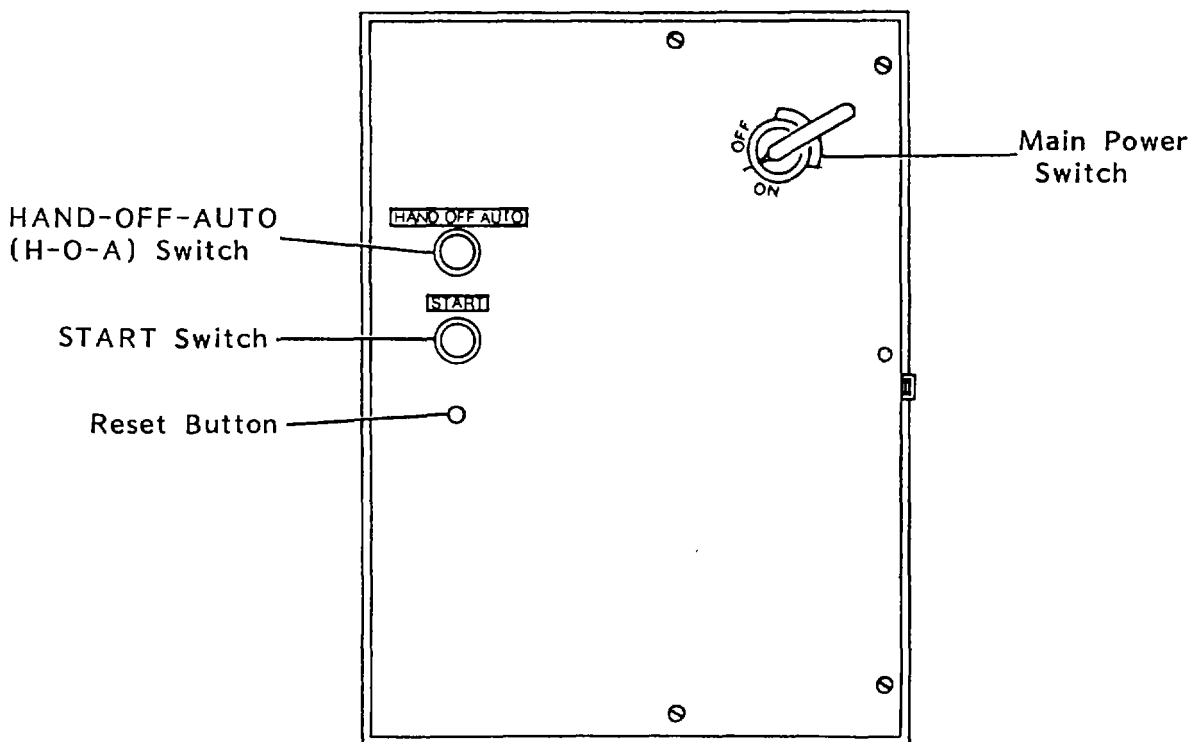

Figure 2-54. Starter Panel Controls
- b. Turn main power switch to ON (figure 2-54). Turn H-O-A switch to HAND position. Push START switch.
- (1) Turn main power switch to OFF.